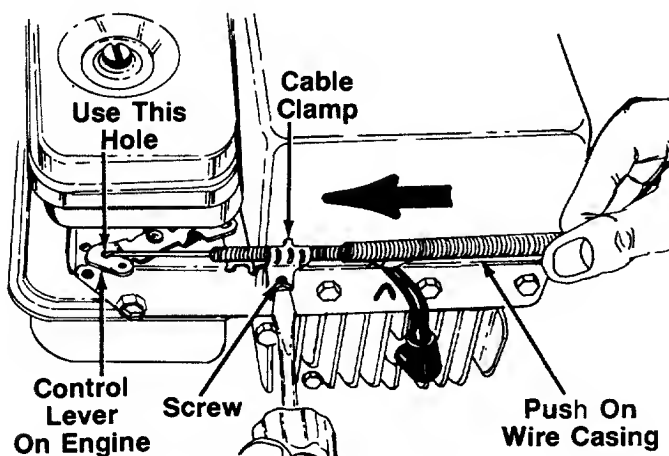

FIGURE 5.
2. The throttle control cable is attached to the upper handle. Route the throttle control cable under the lower handle and inside the handle mounting bracket. Hook the "Z" end of the throttle control cable into the arm on the control lever on the engine which has two holes, using the **outside** hole as shown in figure 5.
3. Using a 5/16" wrench or nutdriver, remove the screw on the cable clamp shown in figure 5. Slip the control casing under the clamp. Replace the screw, but do not tighten (cable must still move freely beneath the clamp).
4. Place the throttle control lever on the engine in the full open position by pushing it toward outside of the unit. Push the wire casing on the throttle control cable toward the control lever on the engine as shown in figure 5 as you tighten the screw on the cable clamp.
The throttle control wire assembly can be adjusted if necessary. Loosen the screw on the cable clamp shown in figure 5. Adjust as instructed in step 4 of "Attaching the Throttle Control Cable" in Assembly Instructions.